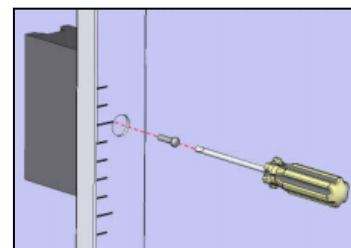

Figure 6
STEP 7: Align the uppermost hole in the height rod with the center threaded insert on the bracket (Figure 6).
STEP 8: Mount the height rod to the bracket using the two (2) flat head screws.